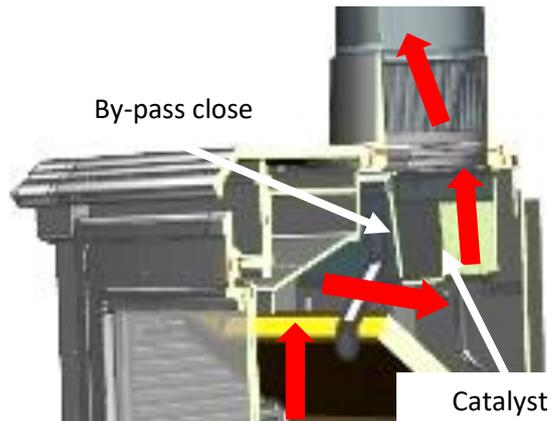

Fig. 19
- When the fire is well established, slide the Burn Type Lever to the top for normal operation with wood ("A"). Then adjust the Burn Rate Knob to the desired heat output, either manually or with the remote control. If you have the Catalytic Hybrid Woodbox System, close the by-pass to allow the flue gases pass through the catalyst (Fig. 19) to achieve the maximum efficiency of the stove. **Protect your hands for such operation.** In addition, if you have an optional draft control (fig. 10), you can regulate combustion by operating its control.